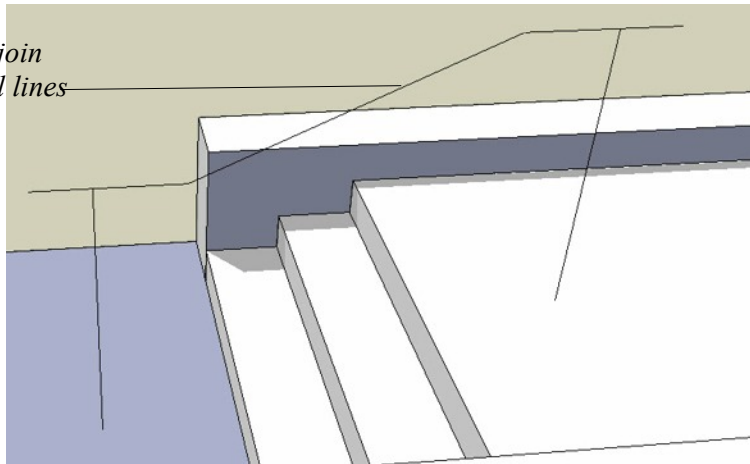

Figure 72. The outline of the completed handrail
- Join the ends of the horizontal lines with a line as shown in Figure 72.